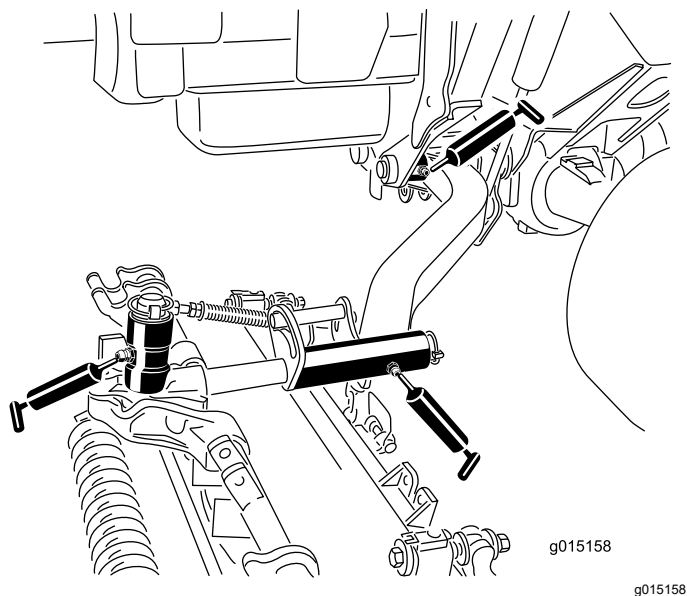

Figure 50
- Lift arm pivot bushings (1 per cutting unit) (Figure 50)
- Cutting unit carrier frame (2 per cutting unit) (Figure 50)
- Cutting unit lift arm pivot (1 per cutting unit) (Figure 50)